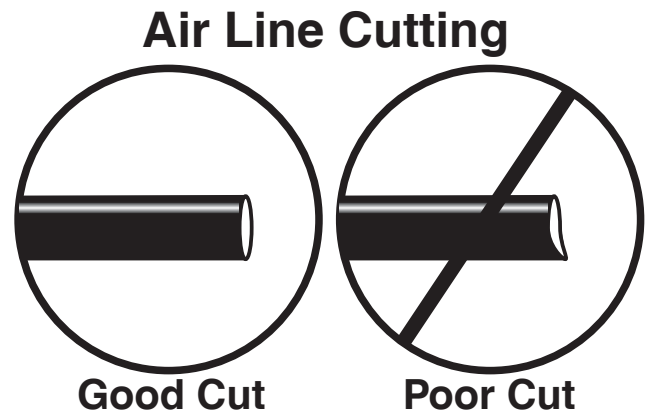

Figure 15
**CAUTION:** When cutting or trimming the air line, use a razor blade or a very sharp knife. A clean, square cut will ensure against leaks. DO NOT USE WIRE CUTTERS OR SCISSORS TO CUT THE AIR LINE. These tools may flatten or crimp the air line, causing it to leak around the O-ring seal inside the elbow fitting (Figure 15).